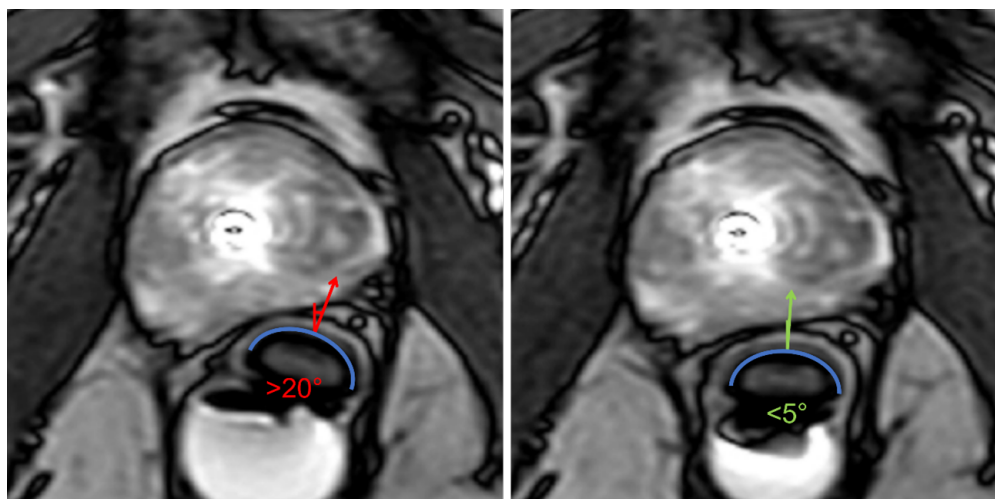

Figure 31: Axial images depicting ECD oriented incorrectly (left, rotated more than 20 degrees) and correctly (right, facing up towards the prostate)
- b. The orientation of the cooling window should face the prostate (anterior), as confirmed on the axial MRI (*Figure 31*). Check that the ECD cooling window is adjacent to and facing the prostate, with the handle-neck joint of the ECD at the anal verge and the raised, tactile ridge on the ECD handle facing anteriorly.